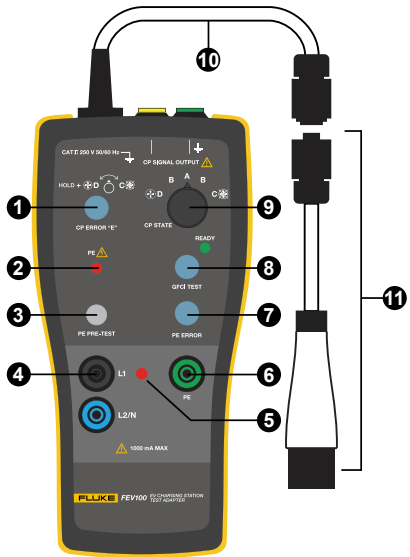

Figure 2. Front panel function
2. Touch the probe with a bare finger. If PE Light (item ②, Figure 2) is illuminated, then dangerous voltage is present at ground conductor. Stop further testing immediately and check for a possible wiring fault of the tested ground conductor. In case of this error, the ground terminal carries hazardous voltage. There is a high risk of electric shock.